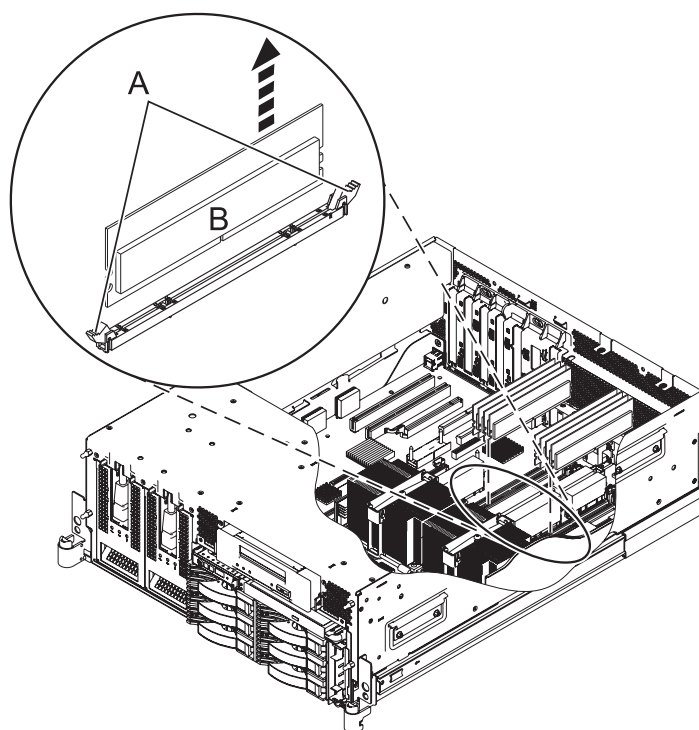

Figure 22. Removing a memory module
11. Unlock the memory module that you identified in step 7 on page 30 by pushing the locking tabs (A) shown in Figure 22 out and then down. The lever action of the tabs forces the memory module out of the connector.
12. Lift the memory module out of the connector, as shown in Figure 22.